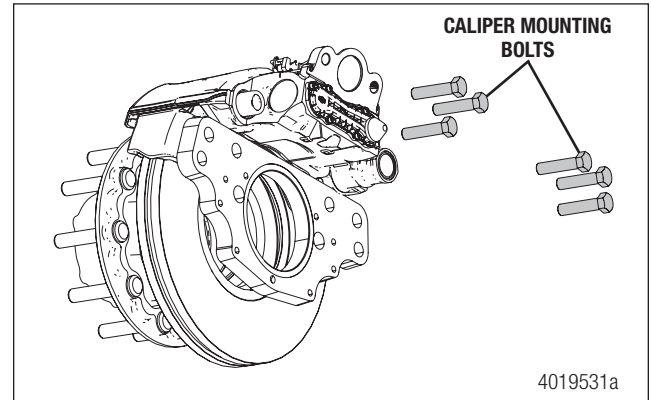

Figure 10
- Use an appropriate-size socket and torque wrench to remove the caliper mounting bolts. The fasteners are torqued to high values so special tools will be required for removal. Once the fasteners are removed, lift the caliper assembly and remove it from the hub/rotor assembly. Place the caliper assembly near the wheel end for reference of the caliper location. Figure 10.